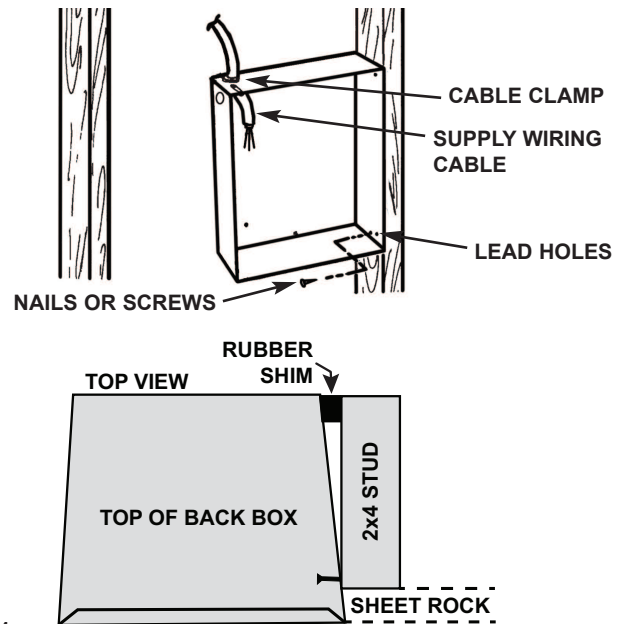

Figure 1
3. Power supply may enter back-box through any knockout provided (see Figure 1).
2. To allow box to fit squarely against wall stud, use the shim provided with the heater as shown in Figure 1.
4. Position back-box against side with studs and secure with nails or screws as shown in Figure 1.
NOTE: The back-box must be installed to a wall stud and secured using nails or screws as shown in Figure 1.
1. The edge of the back-box must be installed flush with the finished surface. If desired, a shim is provided with heater to allow back-box to fit squarely against wall stud. (See Figure 1).